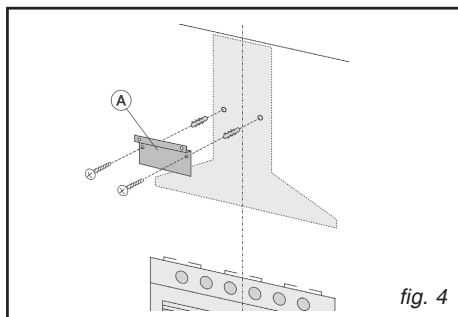

fig. 4
Bear in mind that the distance between the lower edge of the hood and the hob must be min. 650 mm. - Fix the metal bracket (A) to the wall using the 2 holes just drilled (fig. 4); the screws for fixing the bracket are provided. Use the 2 cut-out triangles on the bracket to position it exactly along the vertical axis of the hood.